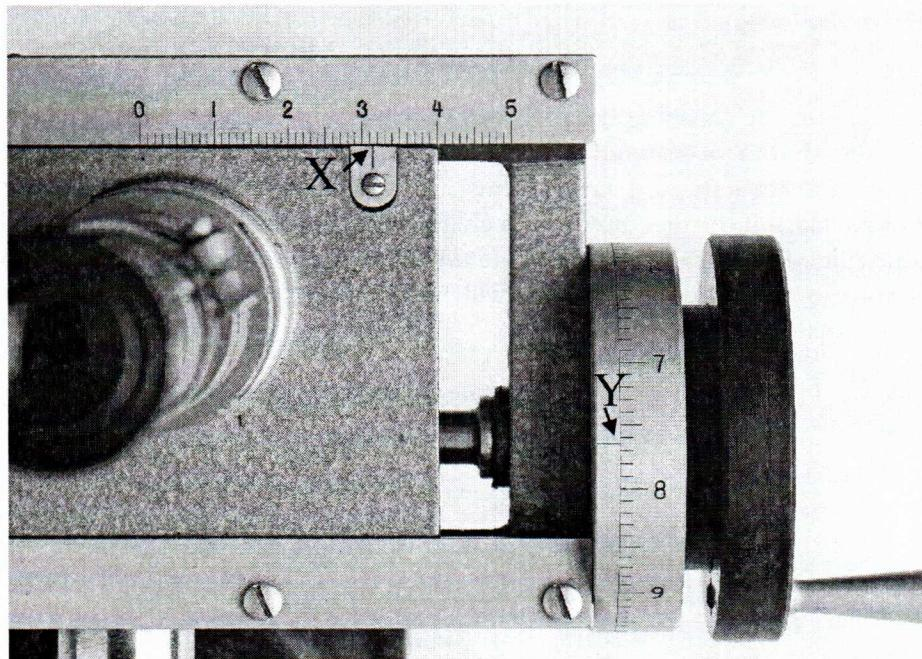

Figure 11.3 The top of the traveling microscope. This position is read as 3.176 cm
1. When the dial on the traveling microscope is rotated, the eyepiece moves left or right. To read the position of the object in the microscope, you must look at two locations on the top as shown in figure 11.3. The first two digits of the position to the tenths place are read from the location marked with an X. The marker location is the smaller number it has past. For example, if the marker is between 3.1 cm and 3.2 cm, 3.1 cm is certain and the next two digits, or down to the thousandths place, will be obtained from the dial position marked Y.
6. Using figures 11.3 and 11.4 as your guide, measure the positions of slit/slides boundaries.